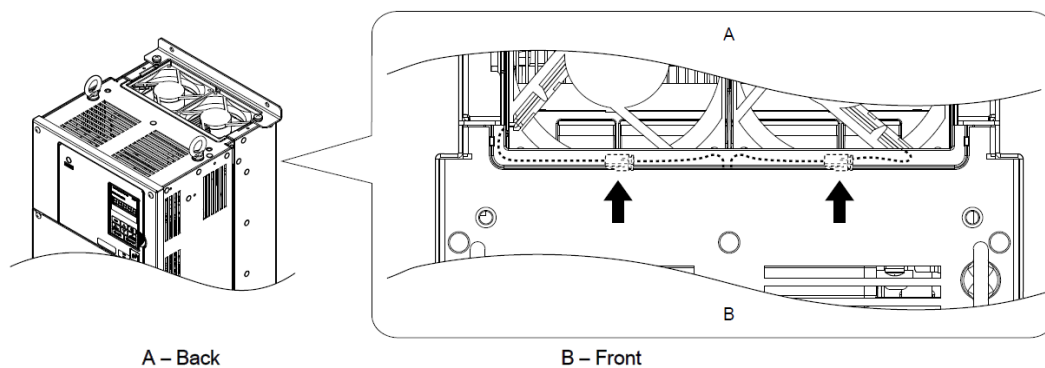

FIGURE 9-13 VFD Fan Reconnect
4. Install the replacement fans by properly connecting the fan power lines and placing the power supply connectors and cable into the recess of the drive per Figures 9-13 & 9-14.